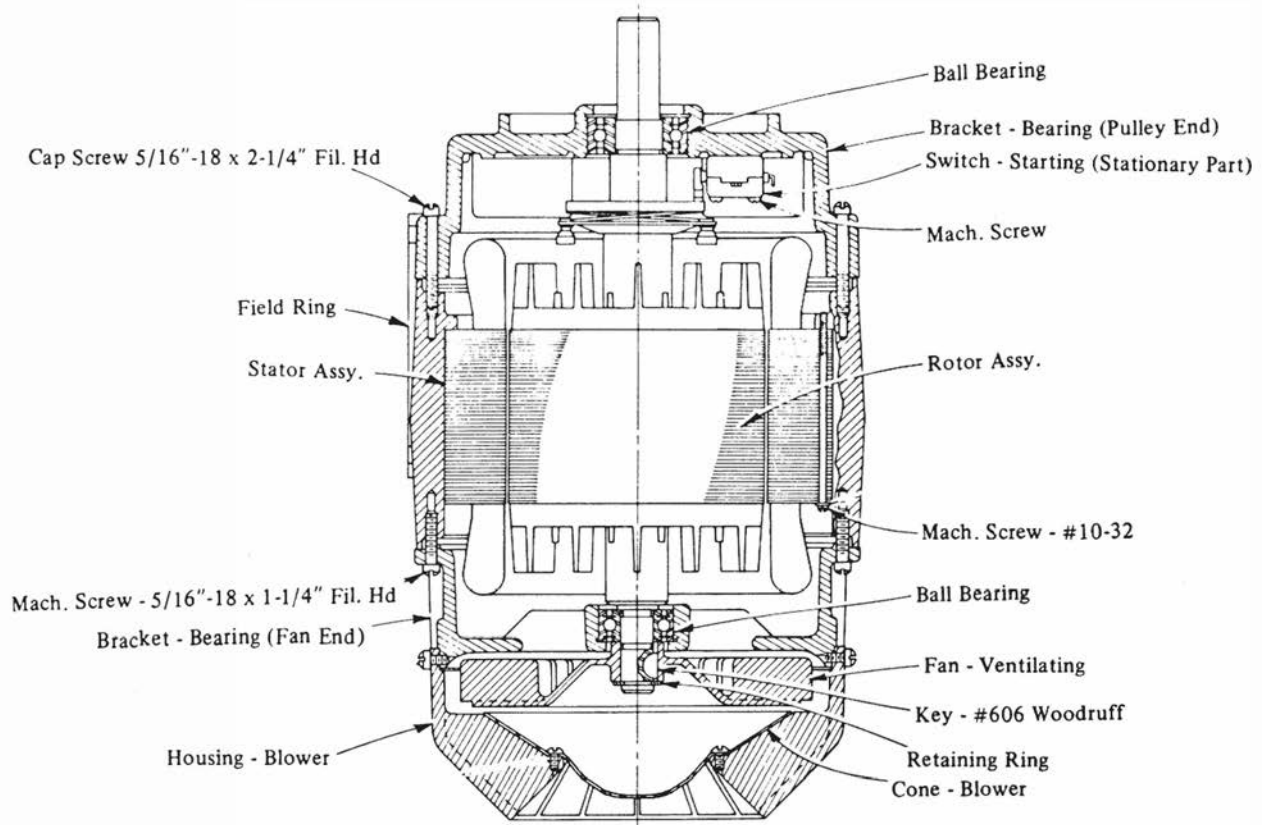

Fig. 8-2
Single phase motors (Fig. 8-2) have a starting circuit consisting of two start capacitors, centrifugal switch and start windings. The start windings assure rotation in the proper direction, and provides the needed torque to bring the motor up to speed. As the motor RPM increases to near its running speed, the start windings and capacitors are no longer needed and the centrifugal switch opens, removing power to the start windings. The motor then runs on the main windings.
B. Start Switch (Fig. 8-2). If it is determined that the start switch has a malfunction, it can be removed without removing the motor from the mixer. Use the following procedure.
- (1) Remove the solid state control panel. (Where appropriate.) [Refer to "Removing Motor (Solid State Controls)".]
- (2) Remove the FLEXA-GEAR DRIVE BELT from the drive pulley.
- (3) Remove the drive gear.
- (4) Remove the motor bearing bracket.
- (5) Disconnect the leads to the start switch and remove the start switch.
- (6) Reassemble in the reverse order of disassembly.